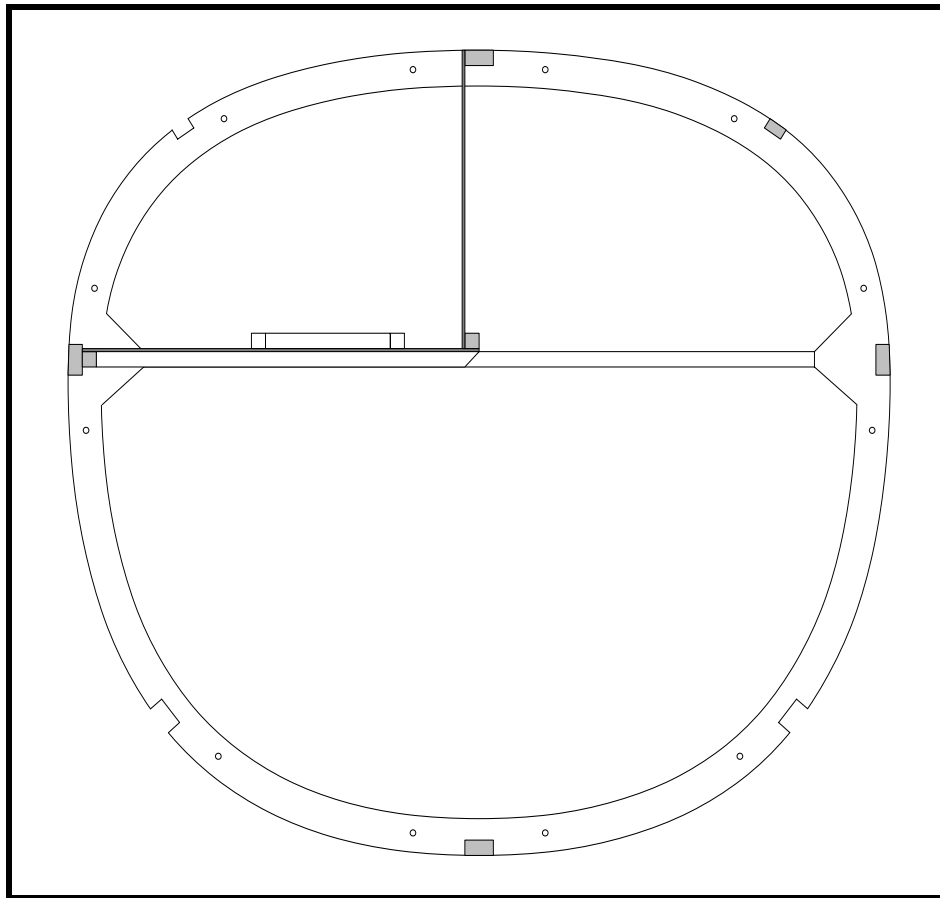

Figure 36
- ❑ Fit and install the center wall of the battery box. See Figure 36.